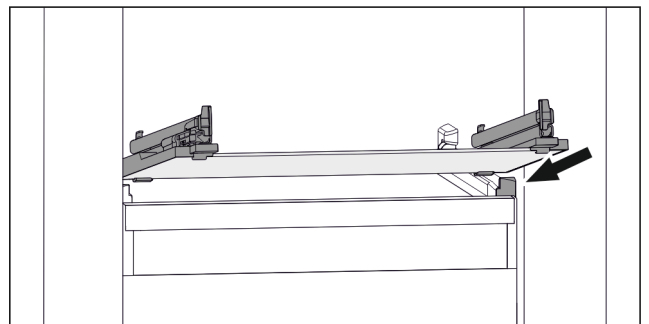

Fig. 107 Example illustration of glass shelf
- Position glass shelf at an angle behind the stoppers. (see Fig. 107)